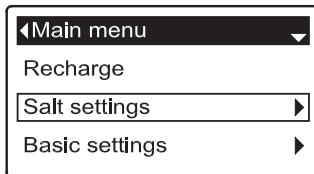

FIG. 29
2. Press the DOWN (▼) button to scroll through the menu options until **Salt settings** is highlighted (See Figure 29).